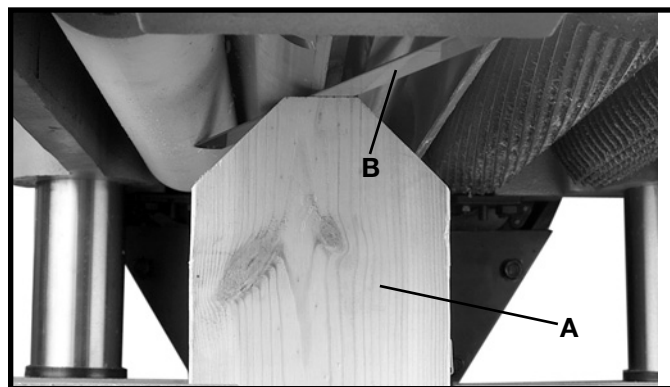

Fig. 44
2. Place the gage block (A) Fig. 44, on the table directly underneath the cutterhead, as shown. Using a 0.040" feeler gage (B) Fig. 44, placed on top of the gage block as shown, raise or lower the head assembly until one of the knives just touches the feeler gage when the knife is at its lowest point. Then tighten the head locking knobs.